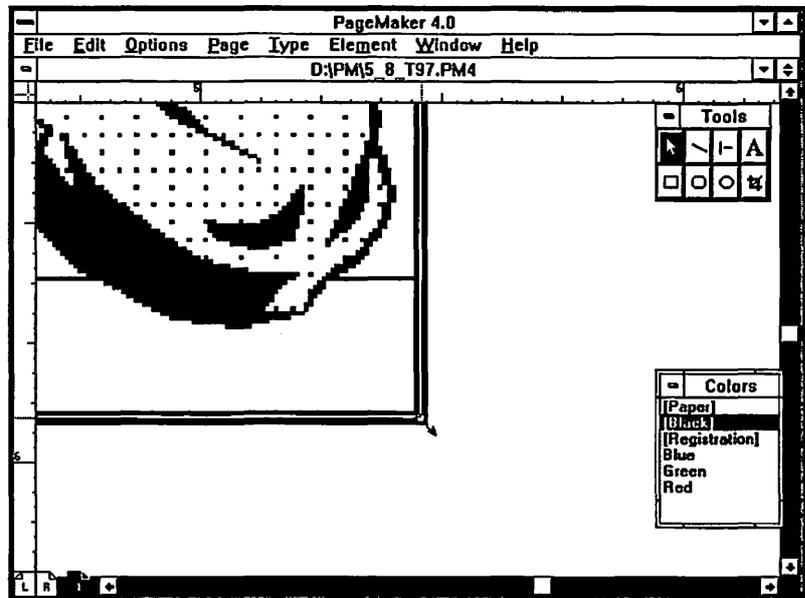

FIGURE 3-31 *Whenever a graphic overlaps a line in PageMaker, the line is reversed, making it easy to position a keyline trap around a photograph.*
2. For a precision fit, use a 400-percent view and adjust the box so that its four inner edges extend onto the photograph. In version 4.0 of PageMaker, this is easier than in earlier versions because the rule is reversed where it overlaps another object (Figure 3-31). The reversed area is easy to see on screen and serves as a good indicator that you're on the mark.